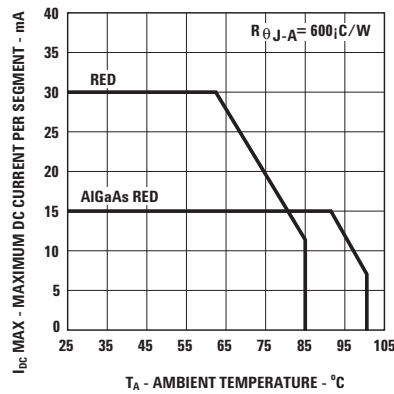

Figure 3. Maximum Allowable DC Current vs. Ambient Temperature.
5. Derate maximum DC current for Red above $T_A = 62^\circ\text{C}$ at $0.79 \text{ mA}/^\circ\text{C}$, and AlGaAs Red above $T_A = 91^\circ\text{C}$ at $0.8 \text{ mA}/^\circ\text{C}$. See Figure 3.